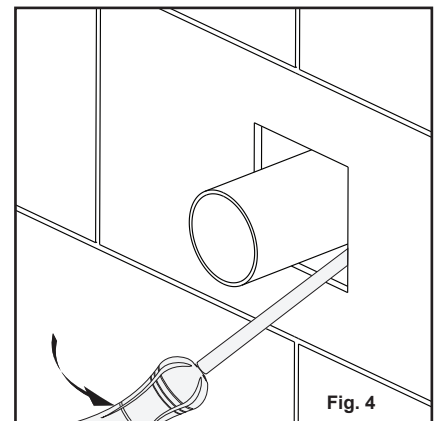
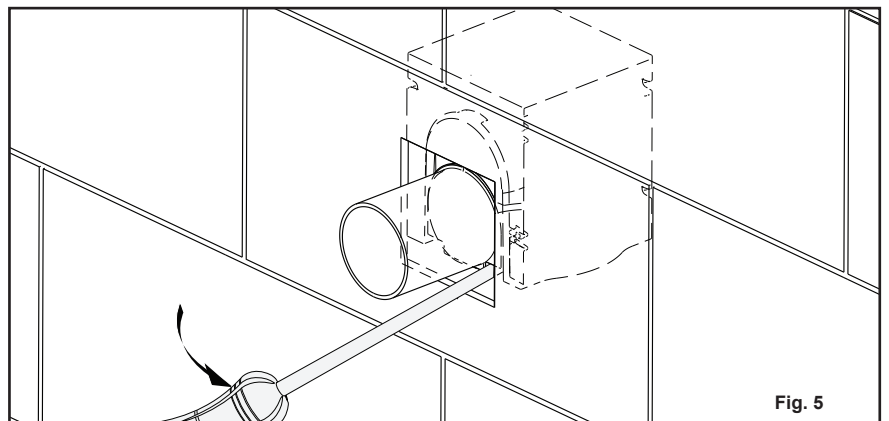

Fig. 4
Fig. 5
4. At the time of the pan installation measure the pan inlet hole and check it lines up with the flush pipe. If the flush pipe is too low the horizontal section of the flush pipe can be raised for better alignment to the pan. To adjust the flush pipe insert a large flat edge screwdriver into the gap between the underside of the flush pipe and the noggin and gently lever the underside of the flush pipe to raise to the required height, as shown in **Fig. 4** and **Fig. 5**. Care must be taken not to damage the pipe. If the tiles above the flush pipe restrict the movement then carefully cut a small section of the tile away to allow the flush pipe to move upwards. (*Ensure the pan will cover up the gap created in the tiles when the pan is installed*).